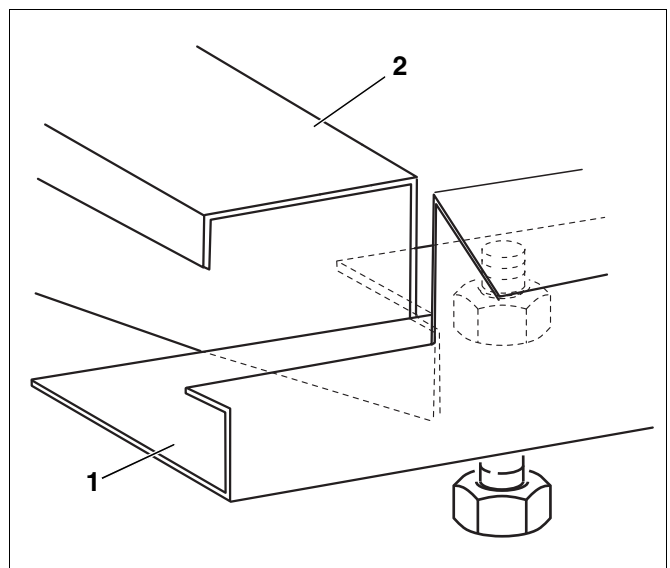

Fig. 39 Place longitudinal rail on cross bar
- Place longitudinal rail (Fig. 39, [1]) with the notch at the front on the notch of the cross bar (Fig. 39, [2]).